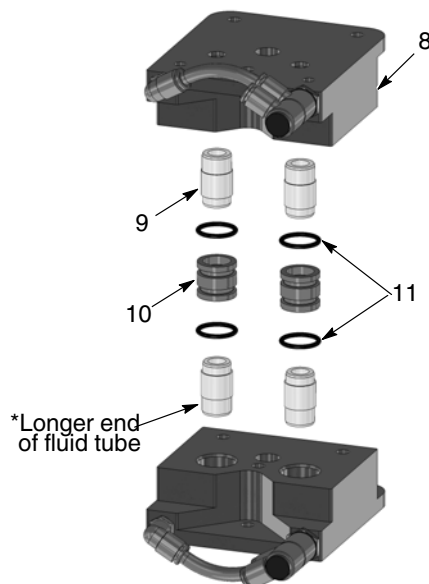
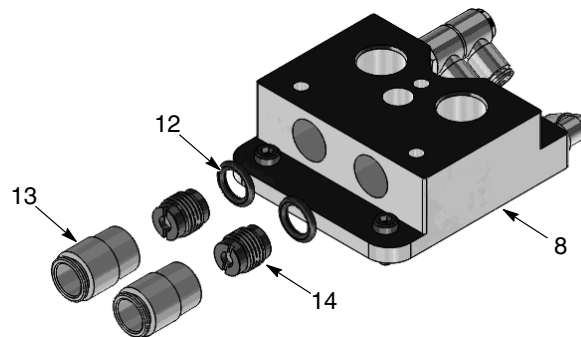

Figure 7-8 Middle Siphon Block Components
Figure 7-9 Middle Block Disassembly
- See Figure 7-8. Wiggle the screw driver back and forth to remove the fluid tubes (9).
6. See Figure 7-9. Remove two fittings (14) from each middle block (8).
7. Remove two check valves (14) from each middle block (8). Use a finger to remove the two O-rings (12) from each middle block.
NOTE: Figure 7-9 only shows two of the four fittings and check valves to be removed.
1. See Figure 7-9. Using a finger, securely seat two O-rings (12) in each middle block (8).
2. Using a large flat head screwdriver, insert two check valves (14) into each middle block (8).
3. Using a 10-mm Allen wrench, insert two fittings (13) into each middle block (8).
4. See Figure 7-8. To connect the two middle blocks (8), insert two fluid tubes (9) into each middle block. Secure two O-rings (11) on each bushing (10). Apply light pressure to secure the two middle blocks together.